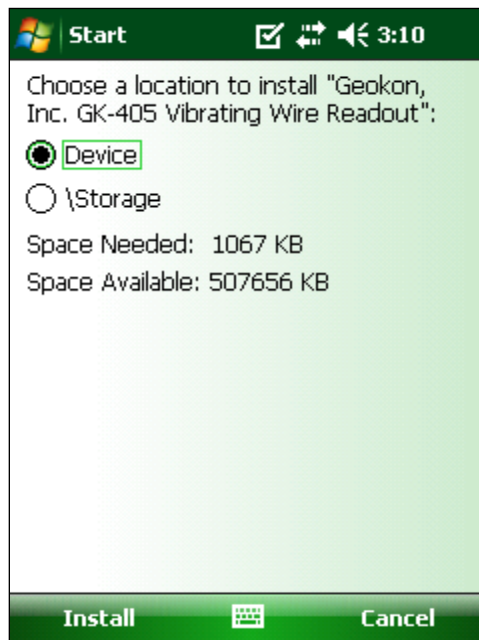

Figure 22 - GK-405 Install Screen
- 5) If there is a storage card installed in the HHD then the user will be prompted to choose the location for the installation (Figure 22). It is recommended that “Device” be selected then tap “Install” with the stylus to initiate the install process.